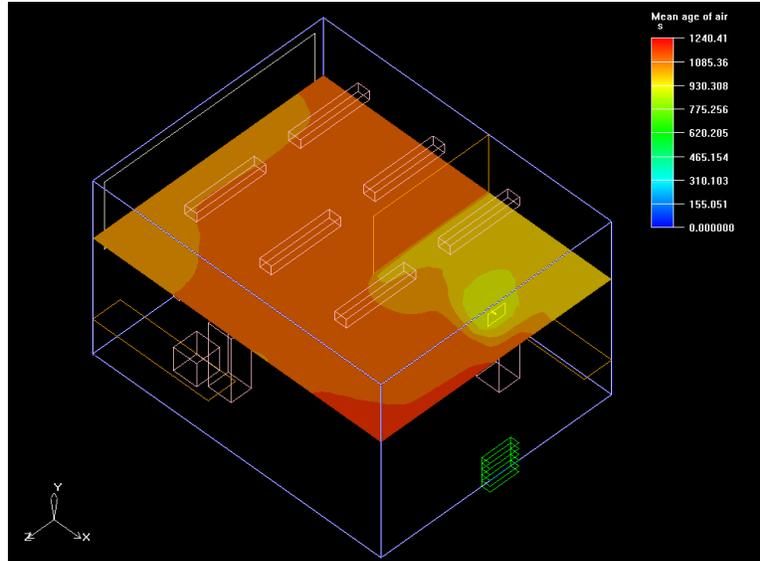

Figure 1.13: Mean Age of Air Contours
*The graphics display will be updated to show the mean age of air contour plot, as shown in Figure 1.13.*